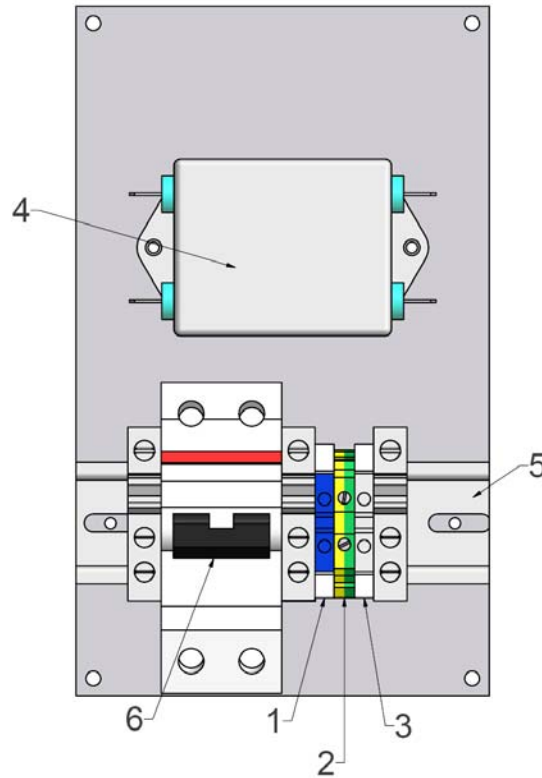

Figure 7: Power connection panel inside the enclosure
The instrument power supply is rated for 90~250V 50/60Hz as shown in fig. 7. An electronic noise suppression filter is installed (4) and the power supply rail (5) with terminal strip and on/off switch (circuit breaker) is located below the filter.